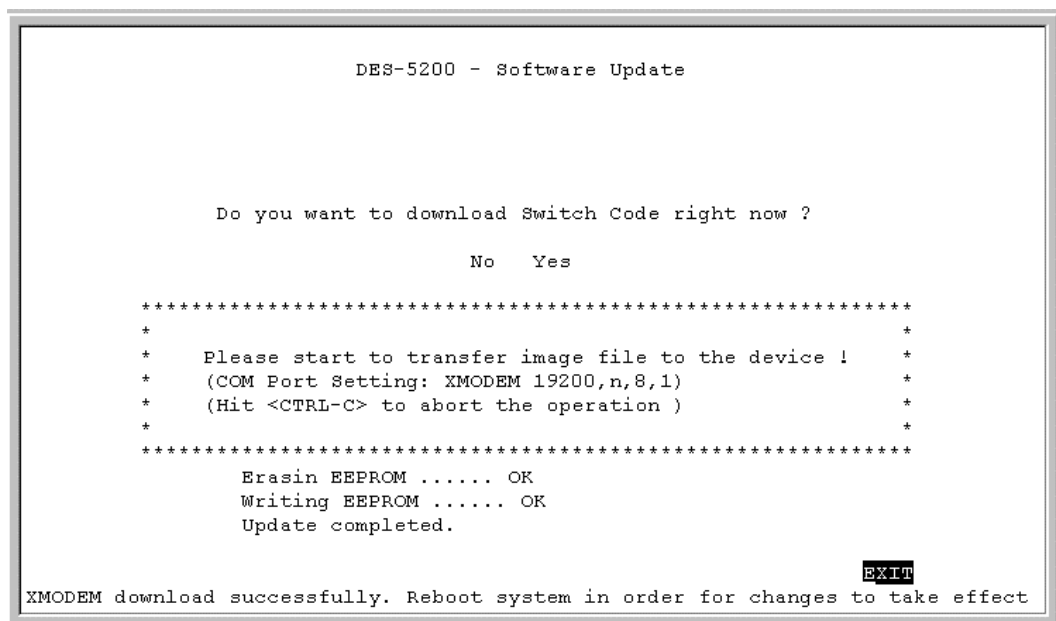

Figure 31: EEPROM
6. Reset the DES-5200 when you see the final update panel, displayed in Figure 31.